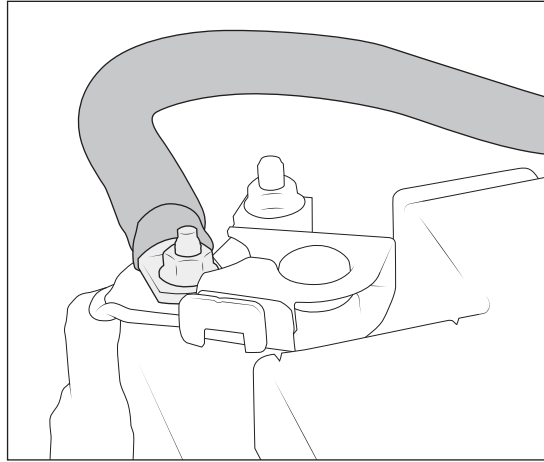

Figure 24
20. 11. Route the negative lead alongside the battery and connect to the negative terminal (fig. 24).